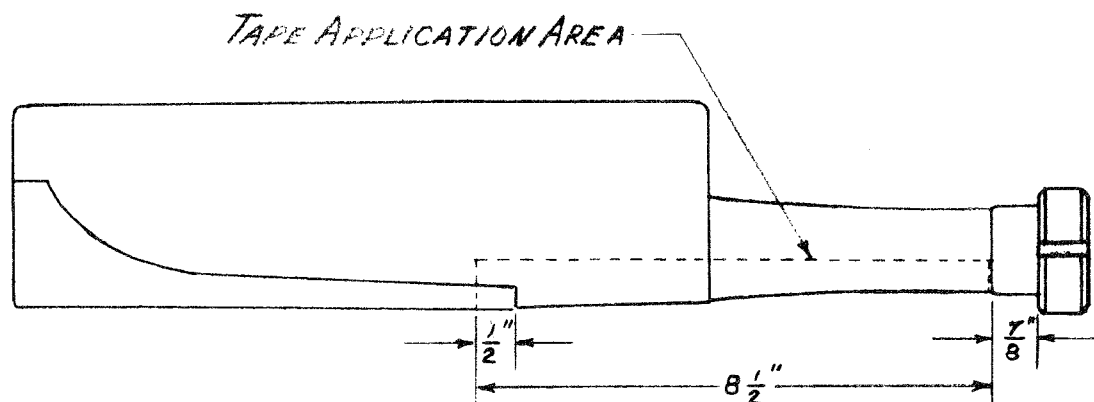

FIGURE 1.
- d. Apply tape along leading edge of spar and blade with equal amount of tape available to left and right sides of blade and spar. Do not stick tape tightly at this time. (See Figure 1)